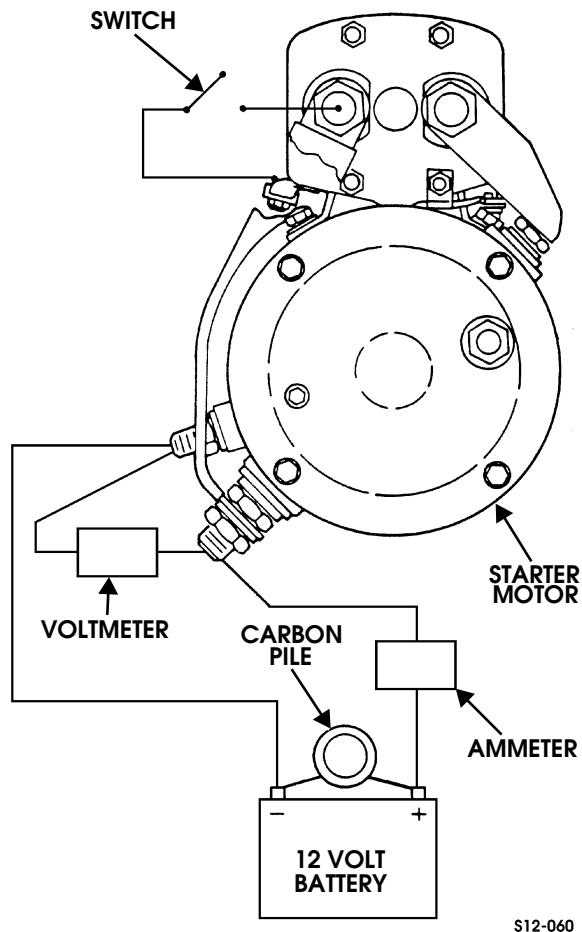

Figure 12-70: Starter Test Connections
1. Connect voltmeter, ammeter, switch and battery to starter as shown (Figure 12-70).